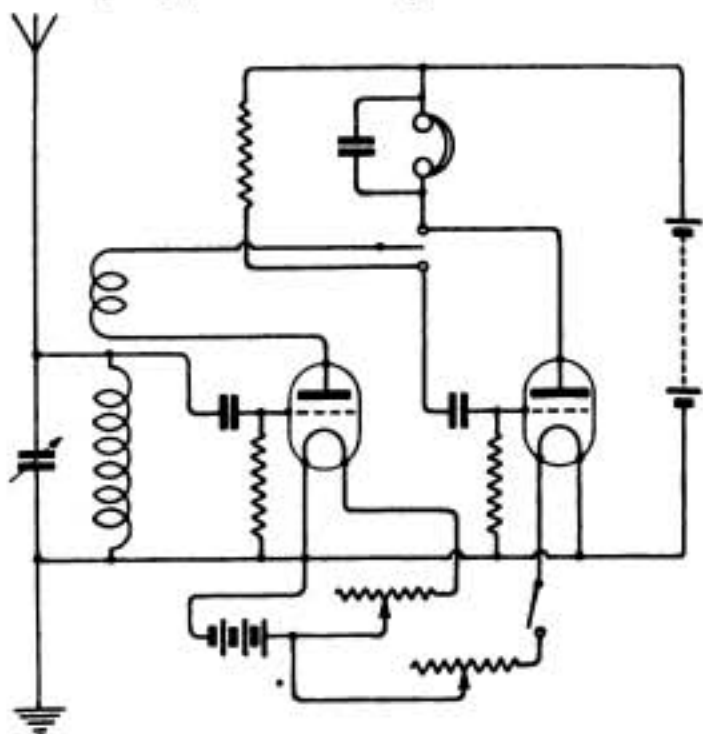

Fig. 8.
(1) Use a spherical reaction coil. Preferably couple the switch shown with a switch to break the filament of the second valve (Fig. 8) when not required, and use separate filament resistances for each valve. (2) Very doubtful.